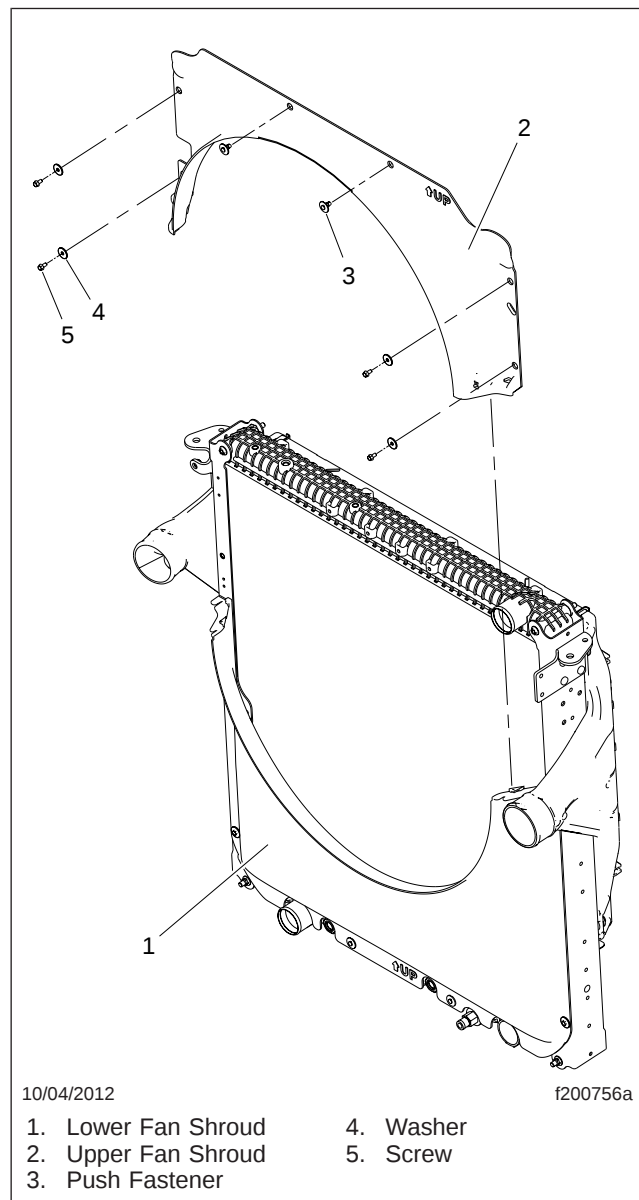

Fig. 10, Fan Shroud Installation
13. Remove the upper fan shroud. See Fig. 10.
19. Remove the lower fan shroud from the radiator. See Fig. 10.
29. Install the upper fan shroud. See Fig. 10.